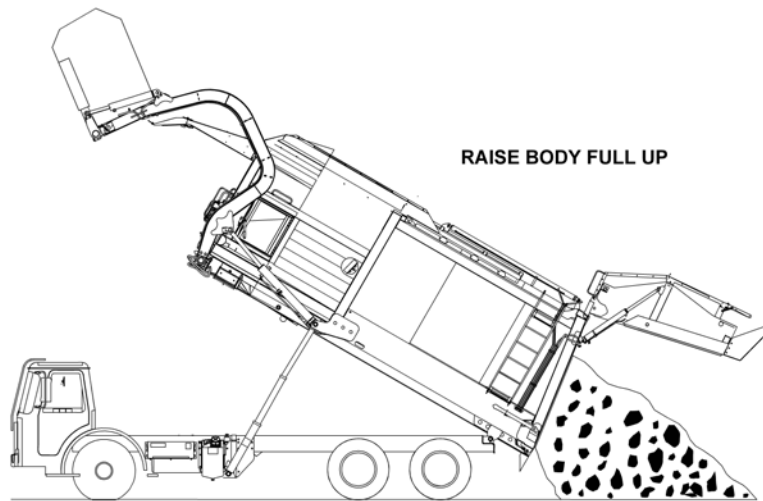

Figure 56. Raising the Body (Carrycan Unit)
1. **MOVE** the body raise air toggle switch to **RAISE** and **HOLD** it there until the body is **COMPLETELY** raised. See Figure 56.